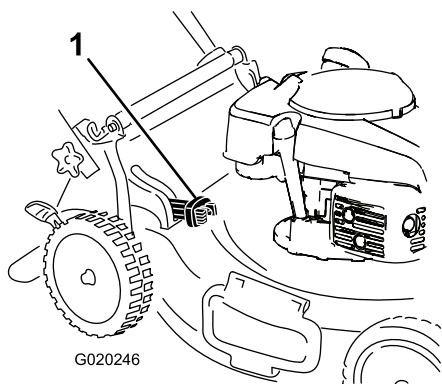

Figure 20
- For bagging the grass and leaf clippings, press the button on the bag-on-demand lever and move the lever forward until the button on the lever pops up (Figure 20).